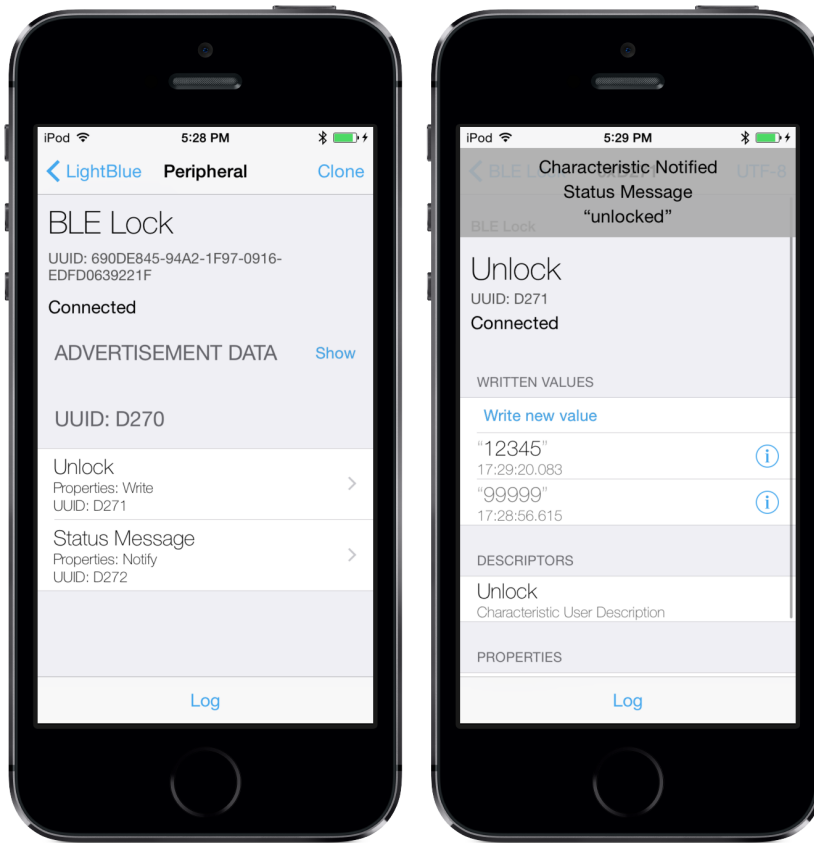

Figure 4-4 Left: LightBlue connected to the Lock Service; right: LightBlue opening the lock
On iOS, use the LightBlue application to connect to the lock (Figure 4-4).
10. If you entered the correct code, the lock will open and LightBlue will receive the status notification (Figure 4-4).